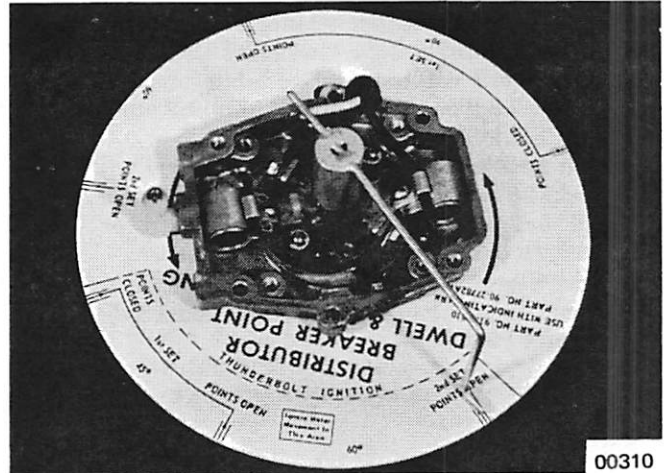

Figure 12. Dwell Plate (C-91-45510A1)
**NOTICE:** Observe "Ignore Meter Movement in This Area" on C-91-45510A1 Dwell Plate. (Figure 12)